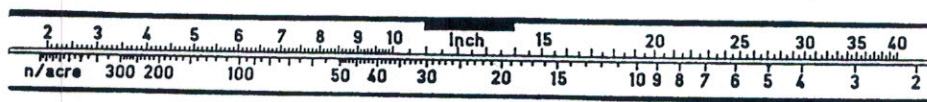

Fig. 3: The two part scale, giving DBH and number of trees per acre.
There are two scales, shown in Fig.3. The upper scale gives diameter in inches in the range from 2 to 40 inches. The lower scale shows the number of trees per acre corresponding to that diameter when using a Relaskop scale of BAF 20 ft2/acre. If you use half this BAF (10), the number of trees must also be divided by 2.
As the DBH of each tree is determined from the upper scale, the number of trees per hectare reads directly from the lower scale (assuming a BAF 20, see Fig.3). In this way the diameter distribution by species can be quickly determined for both cut and remaining trees.